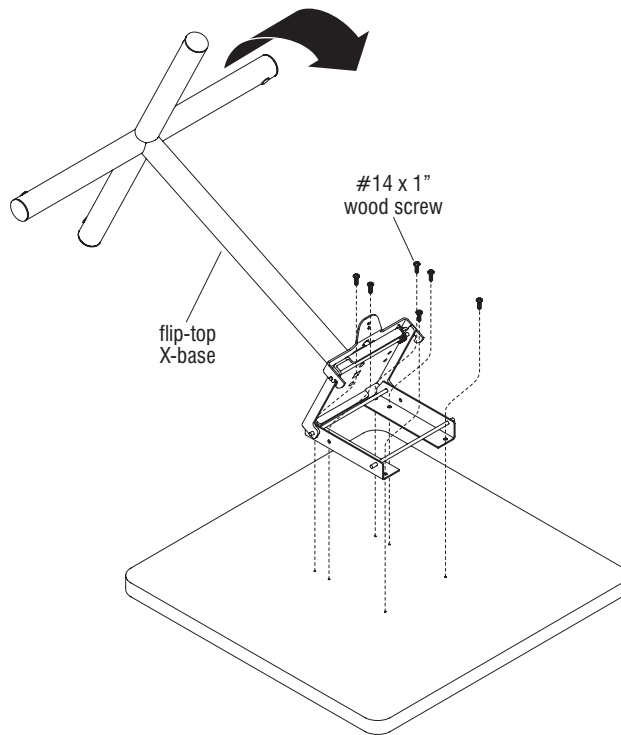

Figure 6 - Flip-Top Table
1. To avoid scratching the table top, place face down onto a soft protective surface (Figure 6).
2. Position base assembly on underside of table top, aligning holes in base assembly with pre-drilled holes in table top. Attach using the six #14 x 1" screws, not to exceed 60 in/lbs of torque. Close flip-top mechanism by pulling base to a vertical position. Base is secure when mechanism "clicks". Stand table upright (Figure 6).